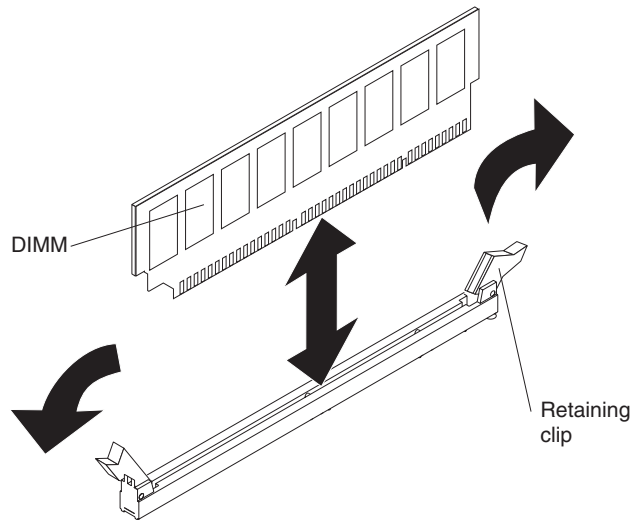

Figure 24. Removing a DIMM
8. Carefully open the retaining clips on each end of the DIMM connector and remove the DIMM (see Figure 24).